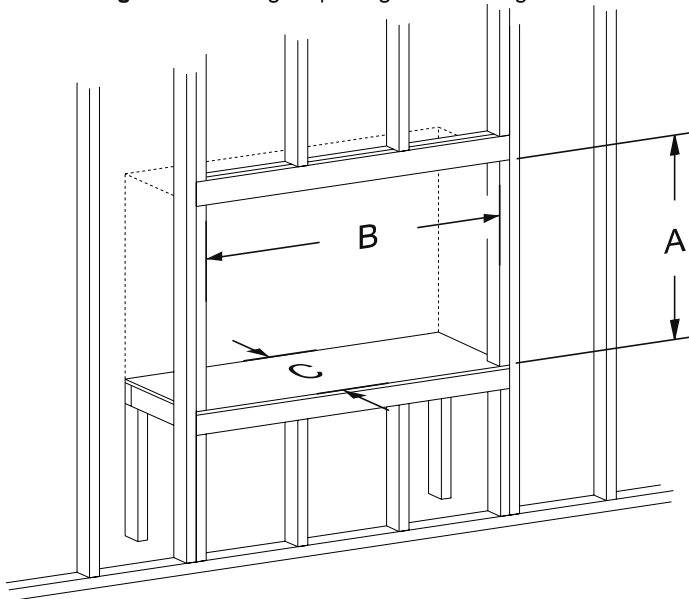

Figure 38 - Rough Opening for Elevated Installation
- Use **Figure 38** for an elevated installation. Provide support to the bottom of the fireplace.